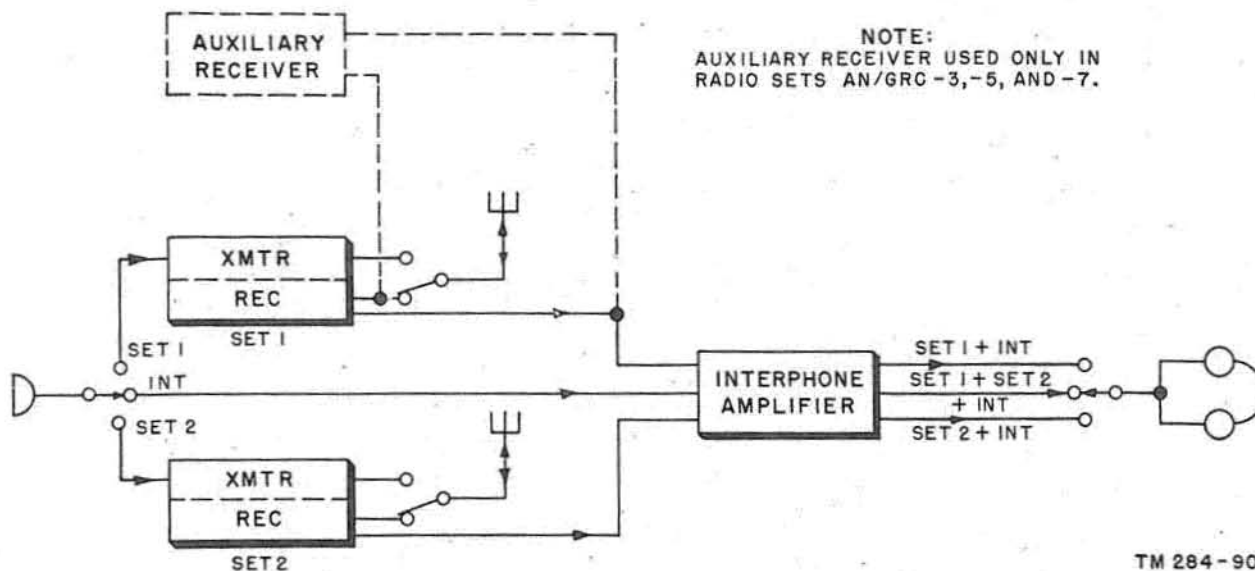

Figure 48. Basic system block diagram.
a. Basically each of the radio sets consists of two receiver-transmitters and an interphone amplifier, with speech-input and monitoring facilities as shown in figure 48. In Radio Sets AN/GRC-3, -5, and -7, the output of an auxiliary receiver is paralleled with the output of the Set 1 receiver. These basic units are the essentials of the systems and the power supplies, cables, mountings, and miscellaneous equipment are supplied to make the
c. An adaptation of the basic system (fig. 31) allows the radio set to function as a relay station to extend the range of another radio set, or to provide a link between two sets whose different frequency ranges make communication otherwise impossible. As indicated in figure 31, the signal picked up by one receiver-transmitter is retransmitted over the other receiver-transmitter. Communication can take place in either direction. In this application the microphone input of figure 48 is replaced by the signal received from a distant set. The retransmission unit (Control C-435/GRC) provides the necessary switching facilities for these functions; it also provides facilities for the basic mode of operation illustrated in figure 48.
phone in figure 48 is switched to Set 1 while the headset is switched to monitor Set 2, the basic duplex function is illustrated. (This switching can be done only at the retransmission unit; microphone and headset switching occurs simultaneously at the interphone boxes.)